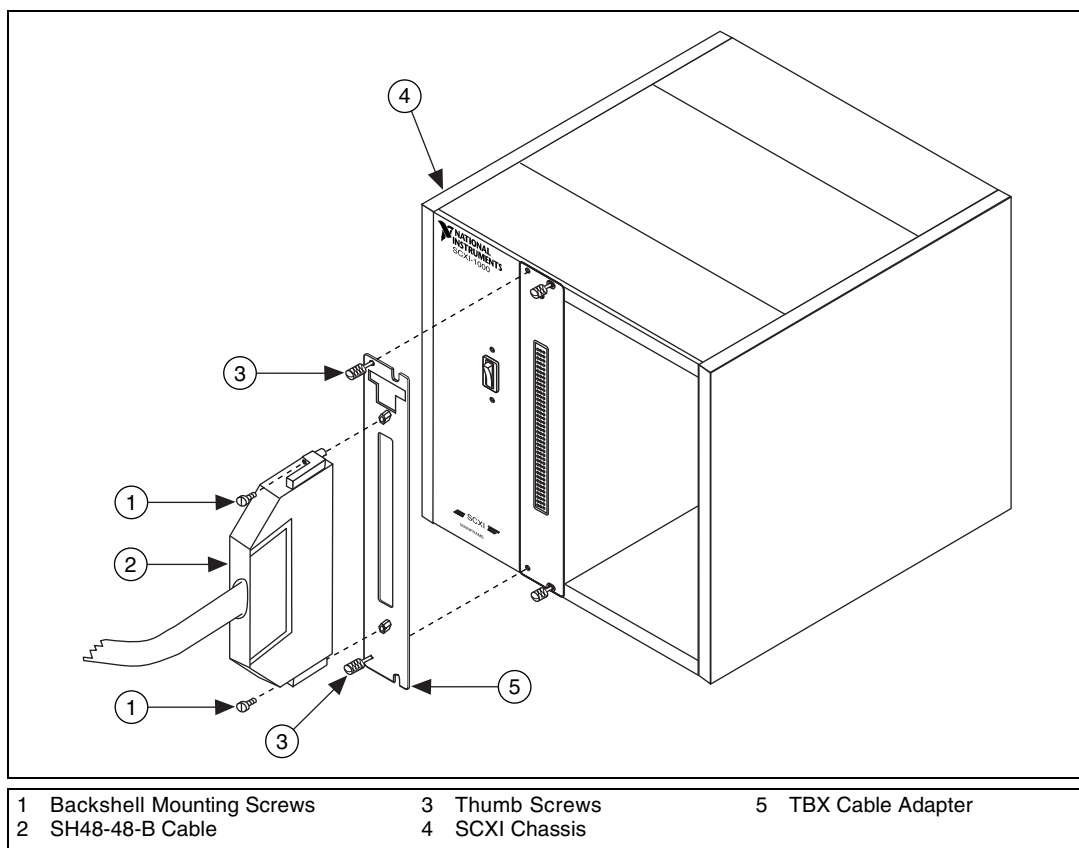

Figure 1. Connecting the SH48-48-B Cable to the SCXI Module
Perform the following steps to mount the SH48-48-B cable assembly and connect the TBX-1326 to the SCXI module. Refer to Figures 1 and 2 as needed.
3. Connect the TBX cable adapter to the appropriate SCXI module and secure it by tightening both thumb screws as shown in Figure 1.